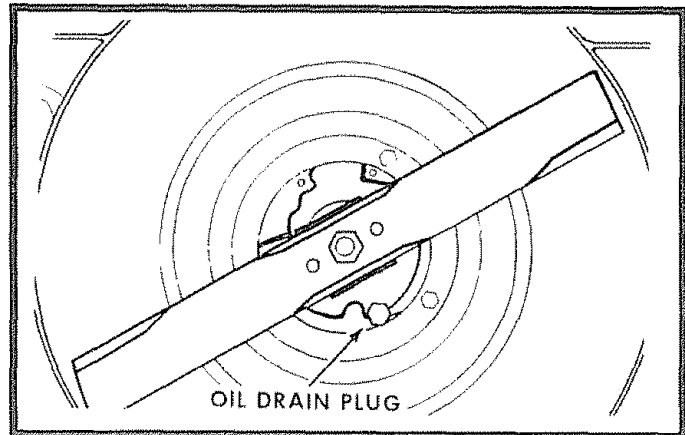

FIG. 7
- Remove the drain plug from bottom of engine, (See Fig. 7). Warm oil drains better.